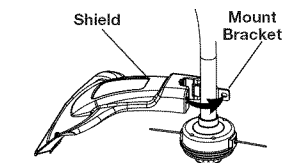

Fig. 1
1. Place the cutting attachment shield onto the shaft housing. Be sure the guard mounting bracket slides into the slot on the edge of the cutting shield. Rotate the shield into place, counterclockwise (Fig. 1). The holes in the guard mounting bracket and cutting attachment shield will line up.